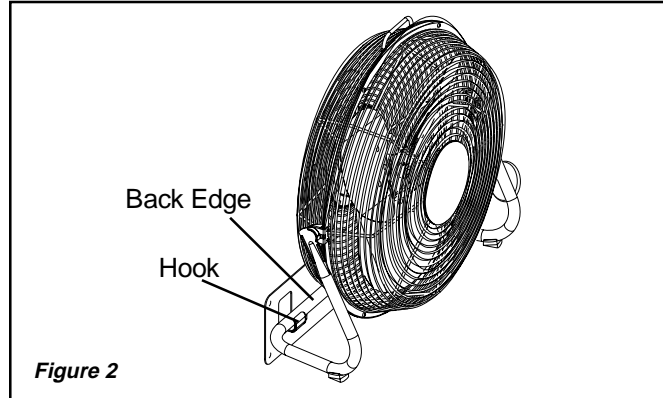

Figure 2
2. Place back edge of stand in wall bracket hooks. (Figure 2)